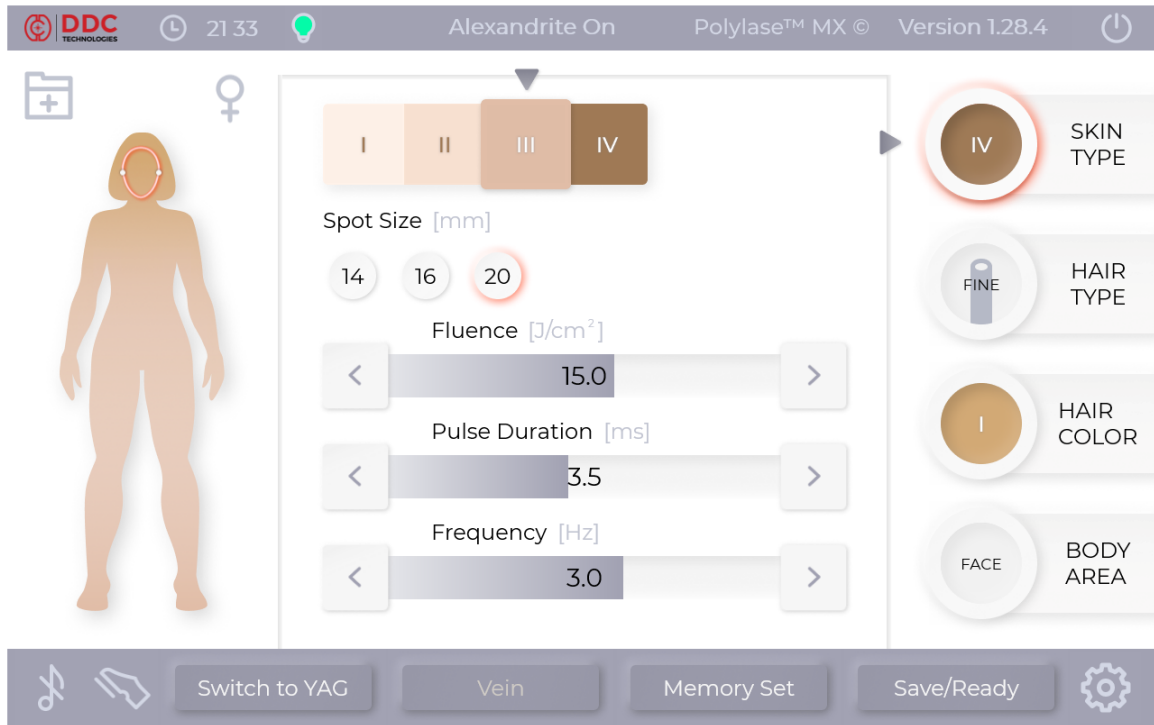
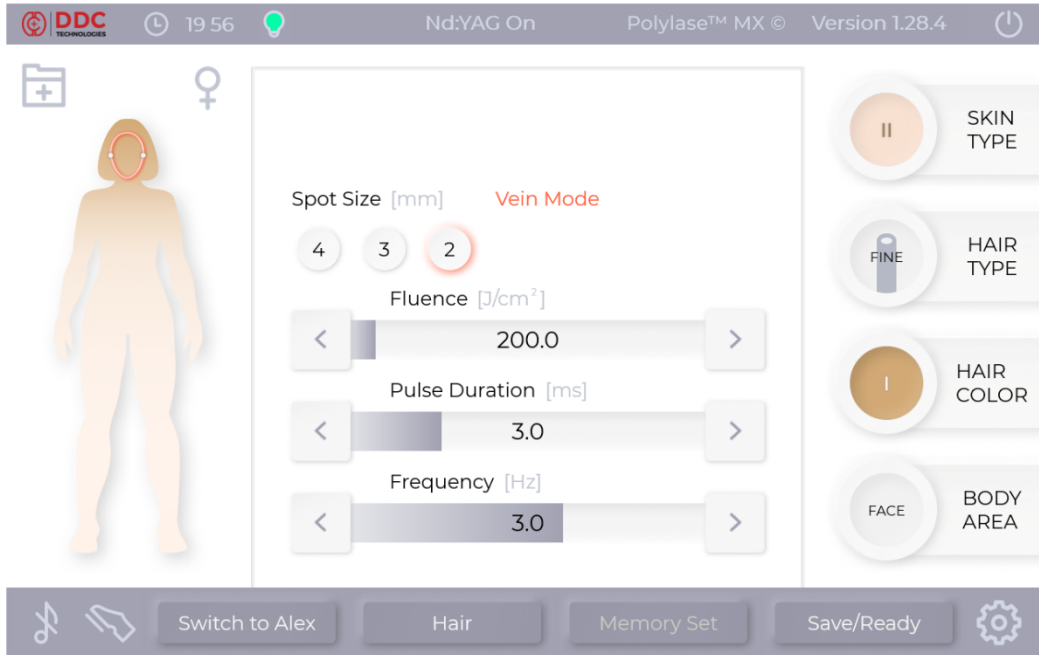

Figure 5-4. Edit Mode Screen
Figure 5-9. Vein Mode Screen.
At this moment the cooling system pump will start and laser lamp(s) will ignite. After the system has completed a start up cycle, laser will stay in *Edit* mode (see Fig. 5-4). In this mode laser operating parameters can be modified by the operator and the laser energy cannot be emitted.
1. Press SKIN TYPE button and then select the Skin Type III option from the horizontal row (see Fig. 5-4)
Press **Save/Ready** button to switch the laser from *Edit* to *Ready* mode. The screen will change to *Ready* mode. The red sign on the LCD display will read: “LASER IS READY”. In *Ready* mode the laser is armed and ready to fire. The intra-cavity shutter is open and the laser power can be released by depressing a footswitch or a trigger button on the handpiece. The use of the footswitch or the handpiece trigger button can be selected by the  button (see Fig. 5-4, 5-6). Unless the footswitch or the handpiece trigger button is depressed, it is not possible to fire the laser in this mode. It is not possible to change parameters while in *Ready* mode.
The POLYLASE MX software allows both Nd:YAG and Alexandrite handpieces to operate in *Vein Mode*, i.e., with the optional insert objective. The optional VEIN OBJECTIVE allows to operate the handpiece with 3 small spot sizes (2, 3 and 4 mm), which allow to generate high fluences during spider and varicose vein treatment (specifically, with Nd:YAG laser). This objective must be installed in the handpiece output aperture instead of the Protective Window Holder prior to entering *Vein Mode*. When this optional objective is installed, the user has to switch the laser into *Vein Mode*. The handpiece mode selection button (**Vein** or **Hair**) is located on the footer toolbar on the *Edit* screen (see Fig. 5-4 and 5-9). The laser is always in **Hair** mode by default after system start-up, therefore, normally this button has the name **Vein** displayed on it. In order to switch to *Vein Mode*, press and hold **Vein** button for at least 3 sec. The button will change its name to **Hair** and the laser software will switch to *Vein Mode* (see Fig. 5-9). The spot size selection options will change to 2, 3 and 4 mm and all displayed Fluence values will be re-calculated reflecting the small spot size selected. In order to switch the laser back to **Hair** mode, press and hold the **Hair** button for at least 3 sec.